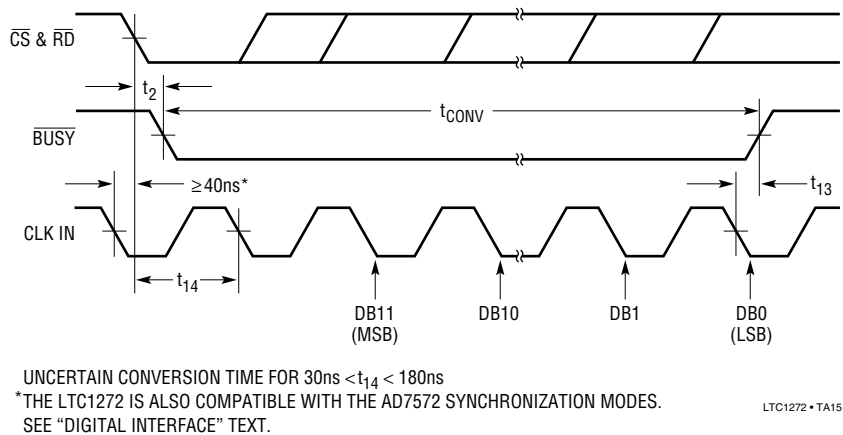

Figure 13.  $\overline{RD}$  and CLK IN for Synchronous Operation
**Note 8:**  $V_{\text{DD}} = 5\text{V}$ . Timing specifications are sample tested at  $25^\circ\text{C}$  to ensure compliance. All input control signals are specified with  $t_r = t_f = 5\text{ns}$  (10% to 90% of 5V) and timed from a voltage level of 1.6V. See Figures 13 through 17.
There are two modes of operation as outlined by the timing diagrams of Figures 13 to 17. Slow Memory Mode is designed for microprocessors which can be driven into a Wait state, a Read operation brings  $\overline{CS}$  and  $\overline{RD}$  low which initiates a conversion and data is read when conversion is complete.